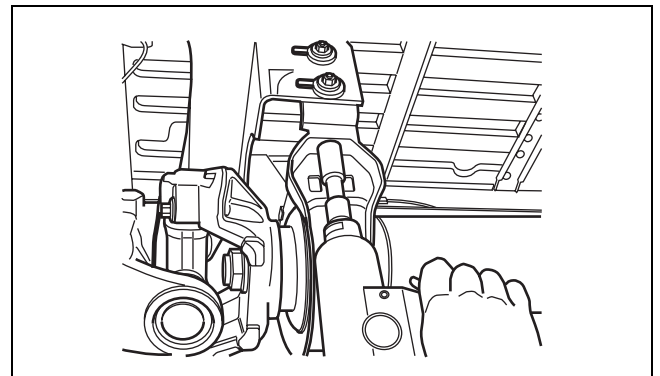

Figure 9.4
2. Remove the center bearing bracket bolts. Figure 9.4.